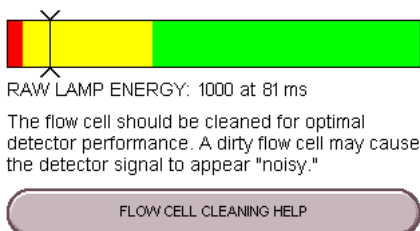

Figure 8-5 Raw Lamp Energy Gauge
2. From the Manual Control window (Figure 8-5), note the Raw Lamp Energy level at 254 nm. The Raw Lamp Energy gauge has three ranges: red, yellow, and green.
If the numerical values of the Raw Lamp Energy (Figure 8-5) do not change, or if the first number remains at zero, contact Teledyne Isco's Technical Service department.